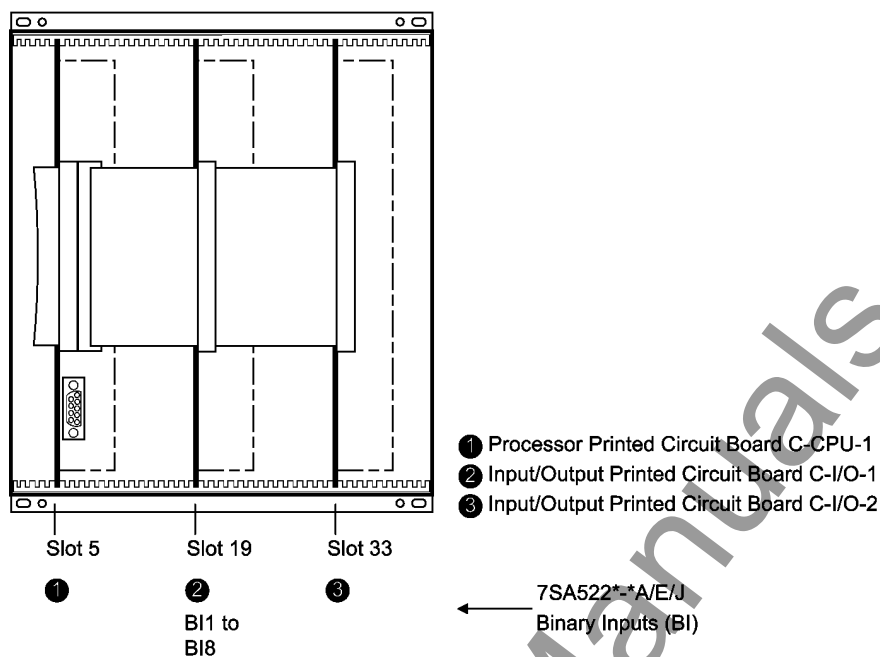
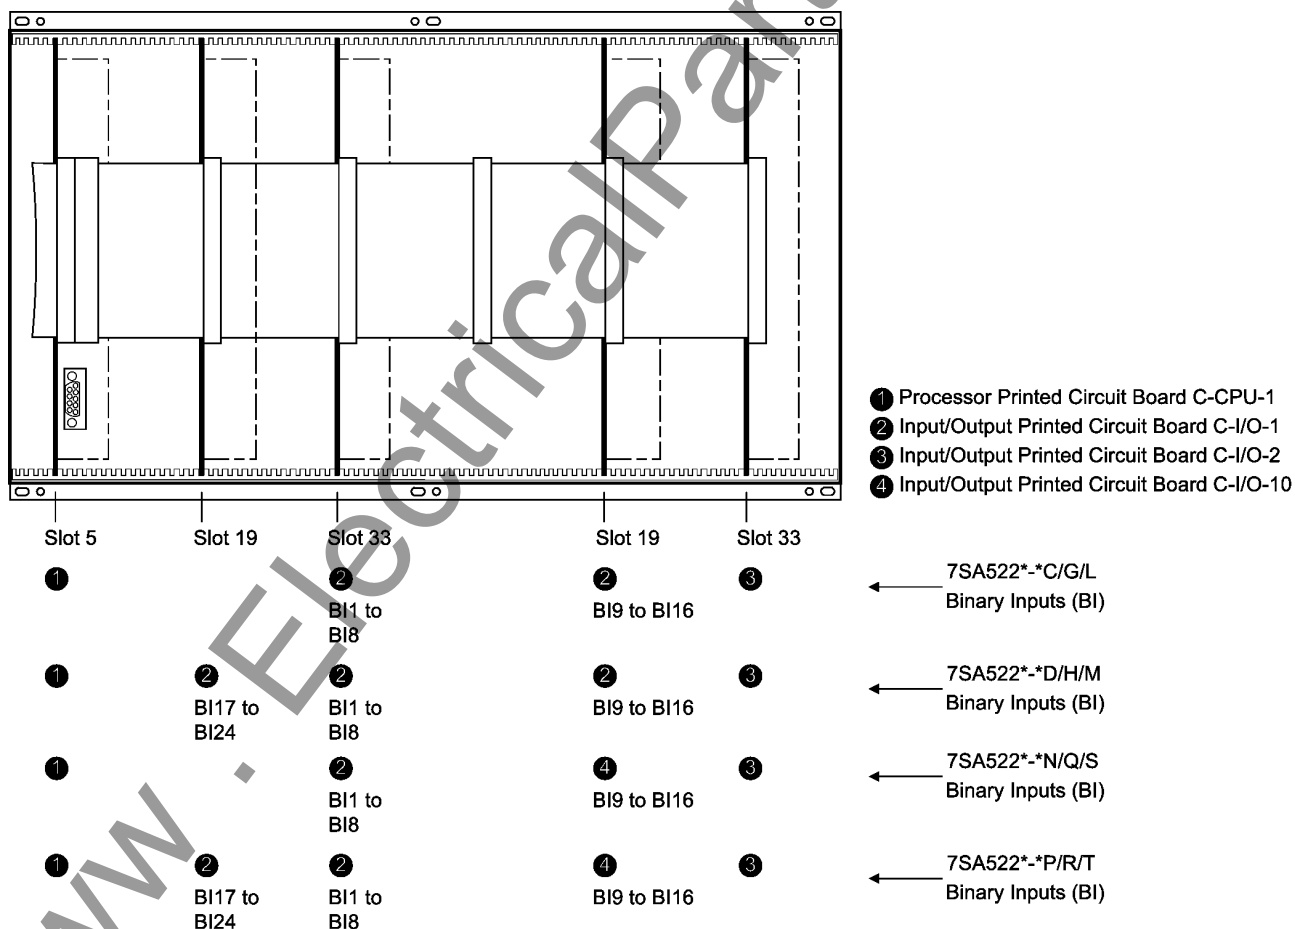

Figure 3-3 Front view with housing size $\frac{1}{2}$ after removal of the front cover (simplified and scaled down)
Figure 3-4 Front view with housing size $\frac{1}{4}$ after removal of the front cover (simplified and scaled down)
The arrangement of the boards for housing size $\frac{1}{2}$ is shown in Figure 3-3 and for housing size $\frac{1}{1}$ in Figure 3-4.
- Disconnect the plug connector of the ribbon cable between the front cover and the processor board C-CPU-1 (No. 1 in Figure 3-3) at the front cover side. Press the top latch of the plug connector up and the bottom latch down so that the plug connector of the ribbon cable is pressed out.
- Disconnect the ribbon cables between the processor board C-CPU-1 (No. 1 in Figure 3-3) and the input/output board I/O (according to order variant No. 2 to No. 4 in Figure 3-3).
- On the input/output board C-I/O-1 (No. 2 in Figure 3-3, slot 19) for housing size $1\frac{1}{2}$,
- On the input/output board C-I/O-1 (No. 2 in Figure 3-4, slot 33 left) for housing size $1\frac{1}{4}$,
- In versions 7SA522*-***D/H/M** (housing size $1\frac{1}{4}$ with 32 binary outputs) this is valid for the binary outputs BO16 and BO24 (Figure 3-4, slot 19 left and right);
- In versions 7SA522*-***C/G/L** (housing size $1\frac{1}{4}$ with 24 binary outputs) this is valid for the binary output BO16 (Figure 3-4, slot 19 right);
- In versions 7SA522*-***P/R/T** (housing size $1\frac{1}{4}$ with 32 binary outputs and command acceleration) this is valid for the binary output BO24 (Figure 3-4, slot 19 left).
with housing size $1\frac{1}{2}$: No. 3 in Figure 3-3, slot 33
with housing size $1\frac{1}{4}$: No. 3 in Figure 3-4, slot 33 right.